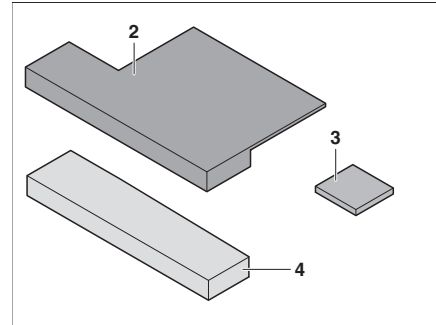

Fig. 182 Additional cushion
- Mount the seat wedge (Fig. 182,3) on additional cushion (Fig. 182,2) (with Velcro).